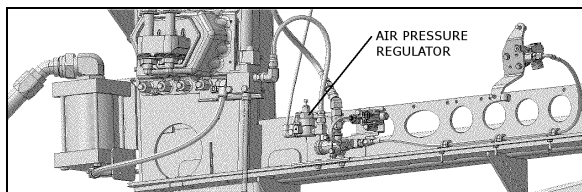

FIGURE 14: AIR PRESSURE REGULATOR (TYPICAL) 07130
18. Adjust the retarder pressure to  $85 \pm 3$  psi with the air pressure regulator. For more information refer to Section 12, "BRAKE AND AIR SYSTEM", under heading "AIR PRESSURE REGULATOR". The air pressure regulator is located in the engine compartment, on engine cradle R.H. side (Fig. 14).